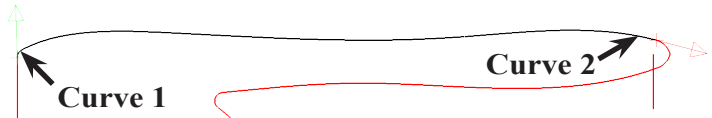
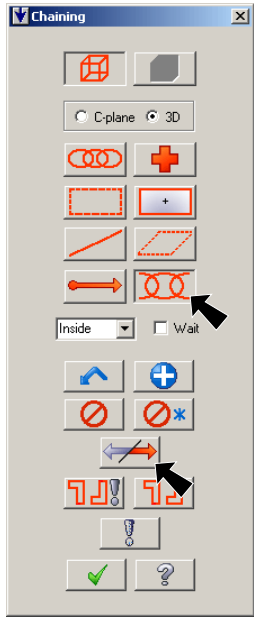

Fig. 47
Fig. 46
Step 3. Click Partial button  (P) in the Chaining dialog box, Fig. 46.
Step 4. Click left end of top arc (under the cartridge hole), Curve 1, Fig. 47. The chain should point to the right across the top. Click Reverse  if pointing in wrong direction, Fig. 46.
Step 5. Click right end of same arc, Curve 2, just before line, Fig. 47. Click OK  in the Chaining dialog box, Fig. 46.